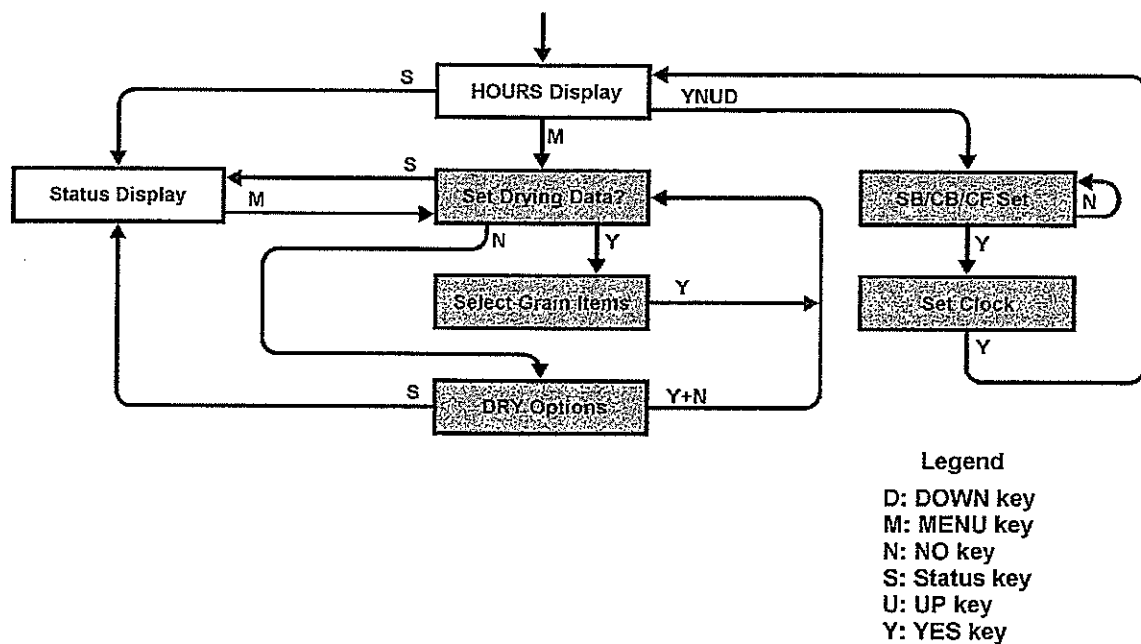

Figure 4-B Path from hours display to status display.
4.2.2.2.2 Controller Status display - Press the **STATUS** key. The path to reach the **STATUS** display message is shown in Figure 4-B.